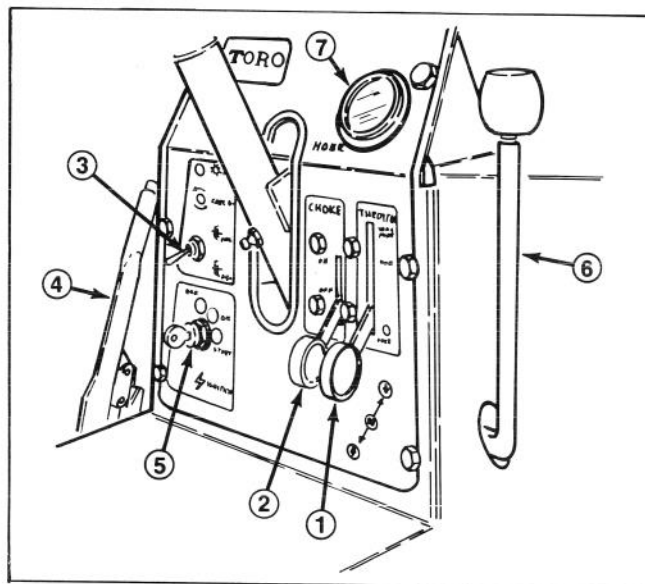

Figure 21
**Ignition Switch (Fig. 21)** — The ignition switch, which is used to start and stop the engine, has three positions: OFF, RUN and START. Rotate key clockwise — START position — to engage starter motor. Release key when engine starts. The key will move automatically to the ON position. To shut engine off, rotate key counterclockwise to the OFF position.
**Choke (Fig. 21)** — To start a cold engine, close carburetor choke by moving choke control upward to the ON position. After engine starts, regulate choke to keep engine running smoothly. As soon as possible, open the choke by pulling it downward to the OFF position. A warm engine requires little or no choking.
**Throttle (Fig. 21)** — Throttle is used to operate engine at various speeds. Moving throttle upward increases engine speed downward decreases engine speed. The throttle controls the speed of the reel blades and, in conjunction with traction pedal, controls ground speed of the engine. Position control in MOW for normal cutting. To attain TRANSPORT, move control to MOW, push control to right, then up to transport.
**Cutting Unit Lift Lever (Fig. 21)** The lift lever has three positions: LOWER, RAISE, and NEUTRAL. To lower cutting units to the ground, move lift lever forward. When lowering cutting units, make sure hydraulic cylinder is completely retracted before releasing lift lever. To raise cutting units, pull lift lever rearward to the RAISE position. Cutting units will not operate unless cylinder is retracted or when lifted.
**Reel Drive Switch (Fig. 21)** — The switch has two positions: ENGAGE and DISENGAGE. Toggle switch engages electromagnetic clutch to drive reels. Amber light on dash indicate when reels are rotating.
**Hour Meter (Fig. 21)** — Indicates the total hours of machine operation. The Hour Meter starts to function whenever the key switch is rotated to "ON".
**Parking Brake** (Fig. 21) — Whenever the engine is shut off, the parking brake must be engaged to prevent accidental movement of the machine. To engage the parking brake, pull back on lever.